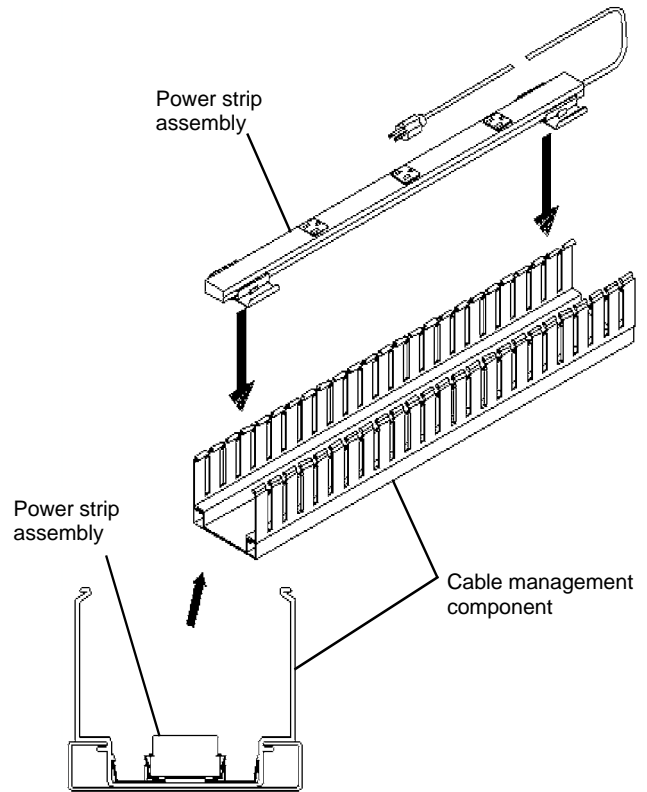

Figure 3
3. Install the Power Strip assembly into the Cable Management Component as shown in **Figure 3**. The Mounting Clip/Plate assembly will snap into place at the bottom of the Component as shown in **Figure 3** (detail).